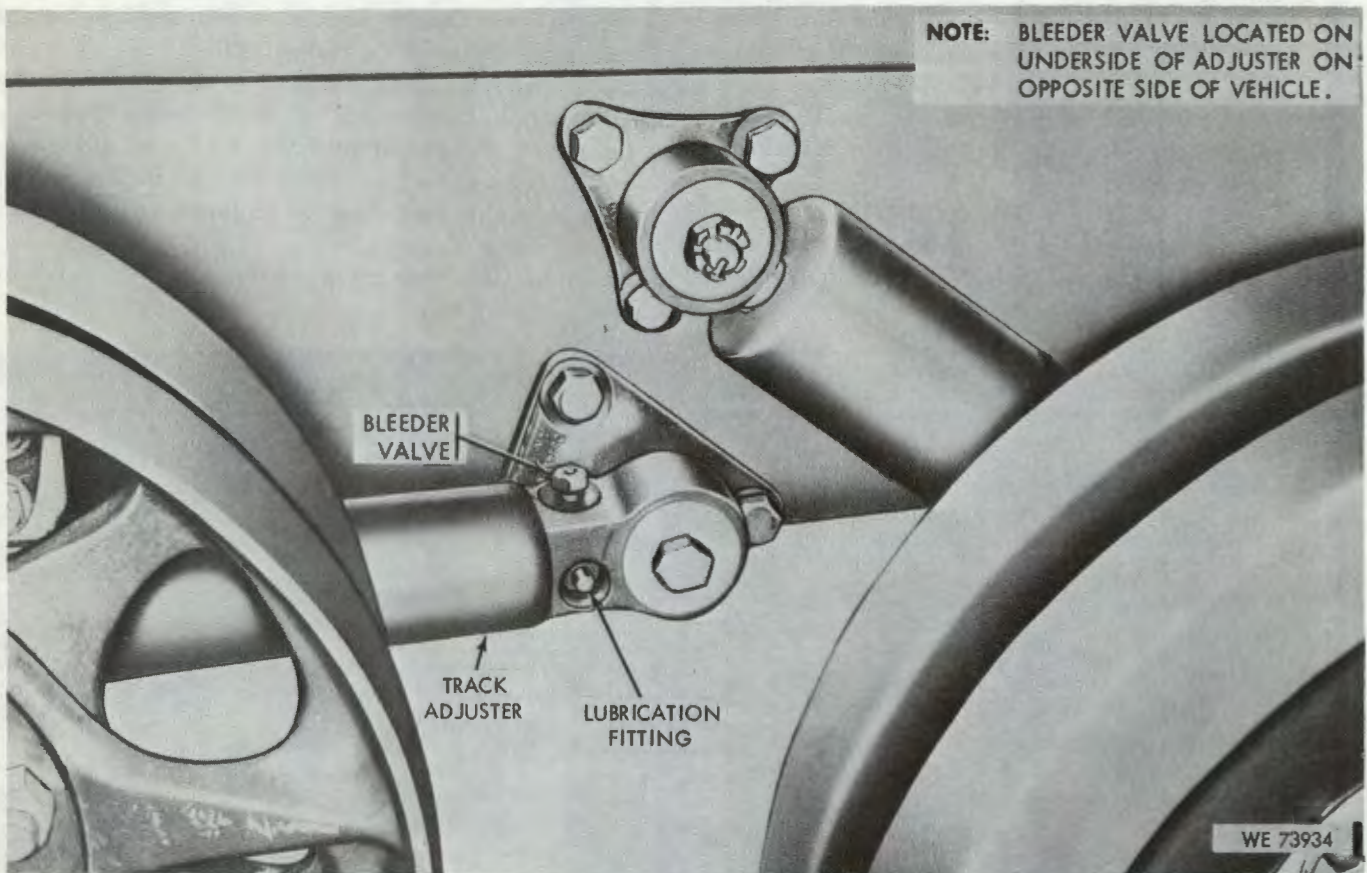

Figure 3-3. Adjusting track tension.
(2) *Tightening track tension* (fig 3-3).
(3) *Loosening track tension* (fig 3-3).
- (a) Check track tension ((1) preceding).
- (d) Check track tension ((1) preceding).
(c) Turn relief valve counterclockwise on track adjuster, and relieve track tension. Turn relief valve clockwise to close (fig 3-3).